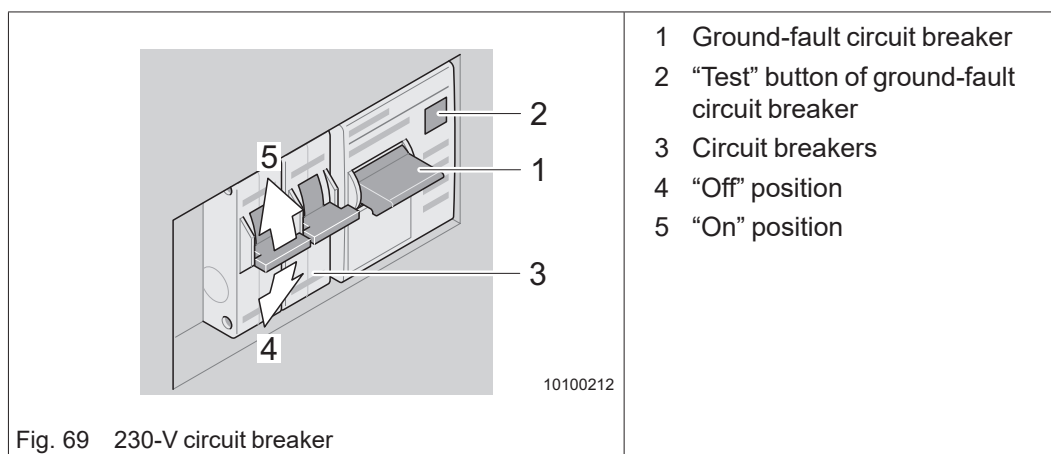

Fig. 69 230-V circuit breaker
- ➔ Press the "Test" button (Fig. 69/2) of the ground-fault circuit breaker with the 230-V power supply connected.
The ground-fault circuit breaker (Fig. 69/1) triggers, the switch handle springs to the "Off" position.
- ➔ To switch on the circuit breaker (Fig. 69/3) push the switch handle upward.